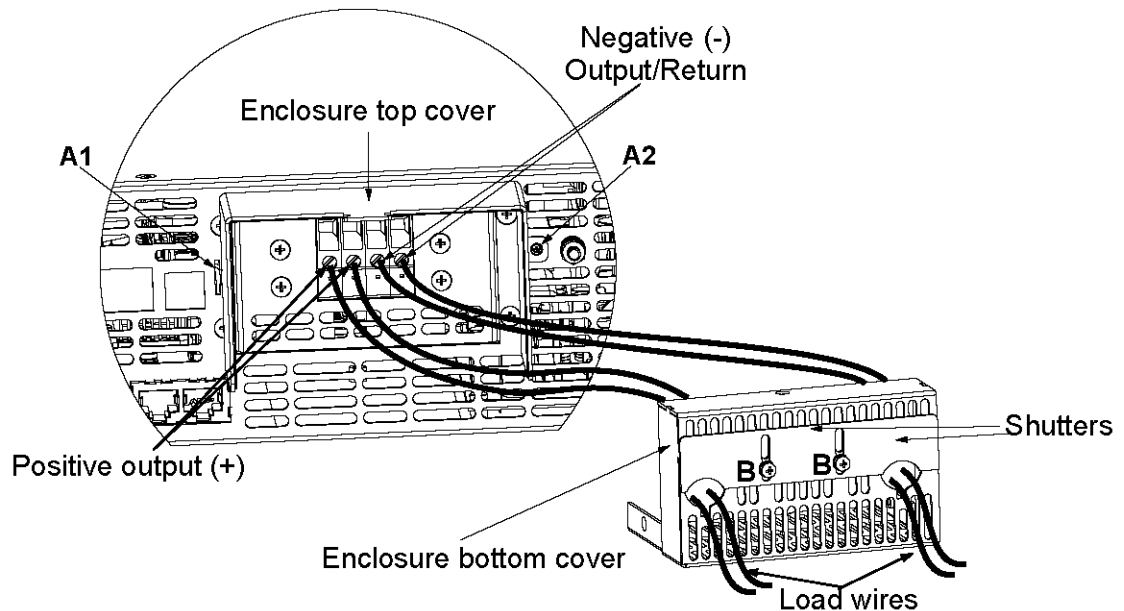

Fig. 3-9: Load Wires connection to the output connector
- d) Insert the stripped wires into enclosure bottom cover opening and then to the terminals, tighten the terminals screws securely (see fig. 3-9)
- e) Assemble the enclosure top cover to the chassis as shown in Fig. 3-9, using clamp "A1" and screw "A2", tighten screw "A2" (tightening torque: 4.8-5.3 Lb-inch).